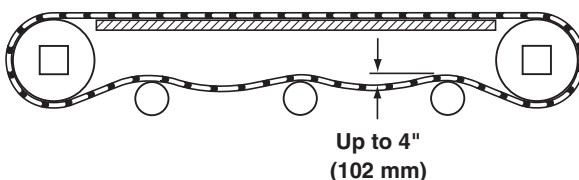

Figure 24
1. Check belt sag by measuring from the top of the return (Figure 24). Belt sag should not exceed 4" (102 mm). Follow steps 7 – 9 in the “Belt Installation” section on page 7 to remove slack from the belt.